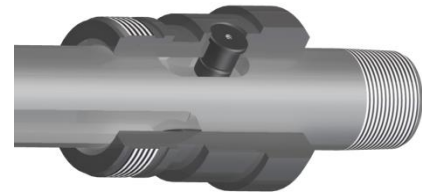

Fig. 6
L-4.29) Align holes in J-pin body (23) with lower landing in slot in J-slot mandrel (20). Install J-pins (3) into J-pin body (23) (Fig. 6).